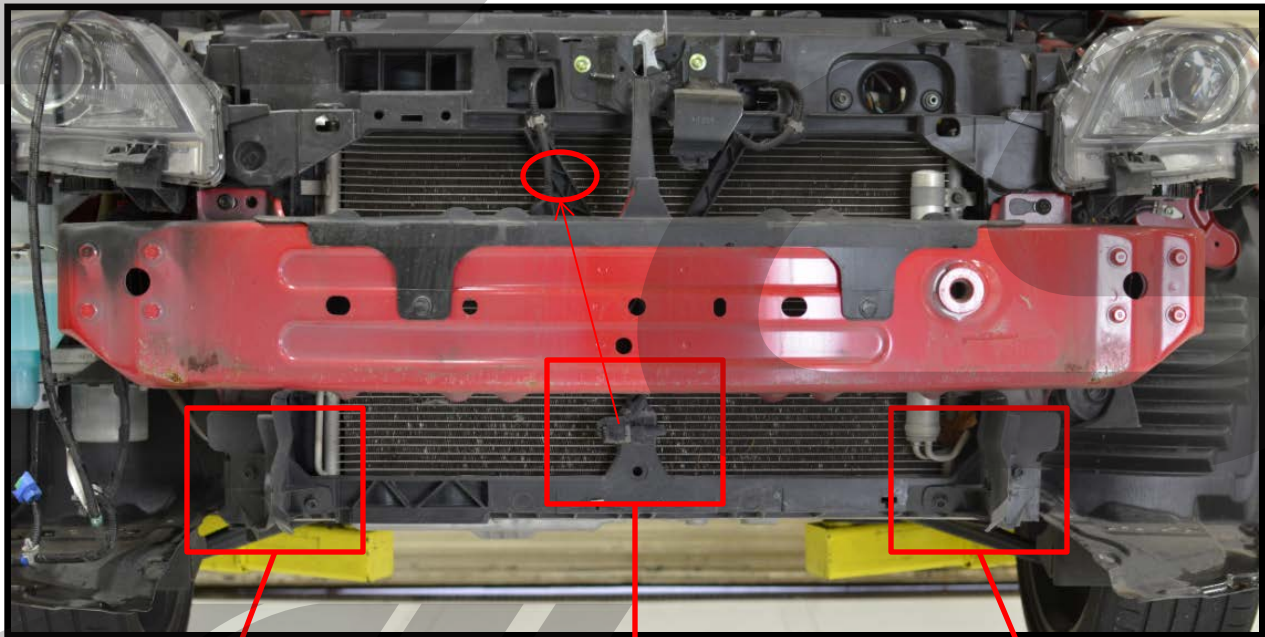
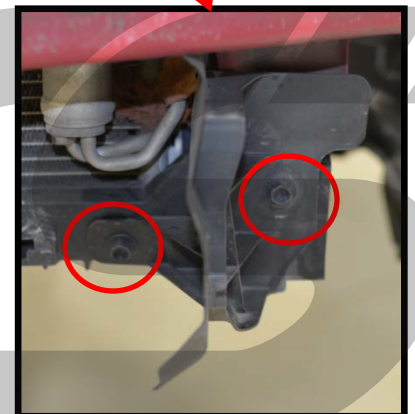

Figure 5a
Figure 5c
- b) Relocate the air temperature sensor (Figure 5c) to the core support cross bar with a small zip-tie shown with the red circle in Figure 5a.